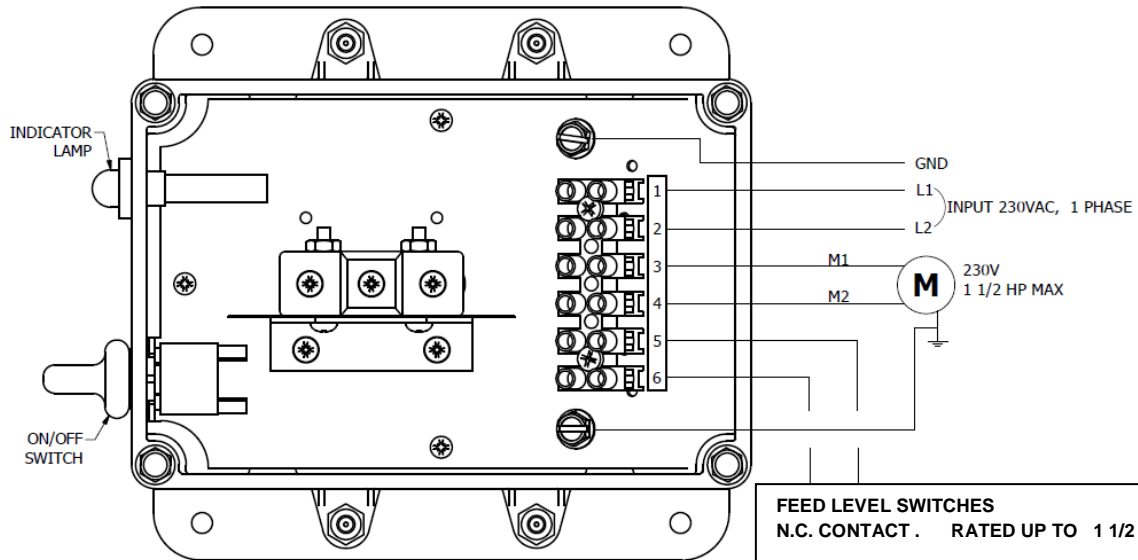

FIGURE 3
3. See below Figures 3 and 4 for external wiring for single phase and three phase operation.
6. If **No Hopper Level Control Switch** is to be used, Place jumper wire between terminals (5) and (6).
REFER TO FIGURE 3 FOR